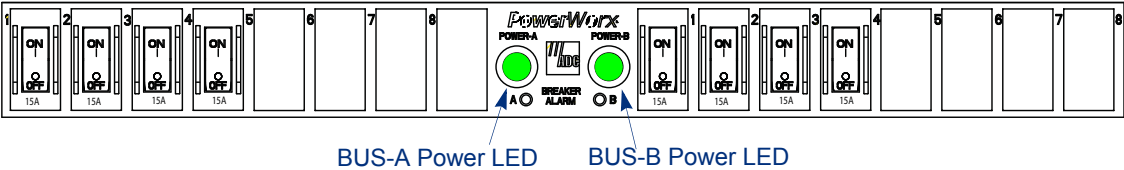

Figure 21. BUS-A/B Power-on LED indicators, circuit breaker
5. Verify the Power-A and Power-B LEDs on the circuit breaker are solid green as shown in Figure 21..